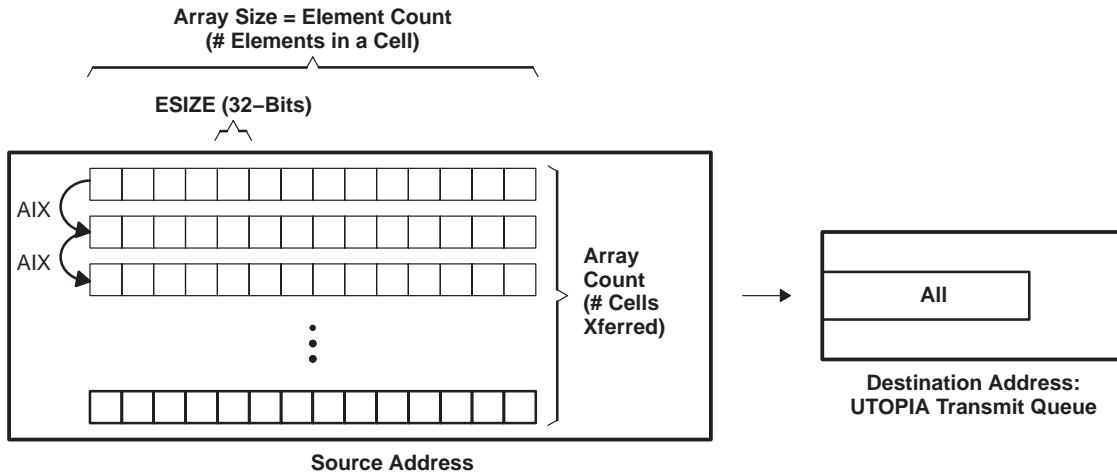

Figure 4. Array-Synchronized 2-D to 1-D Transfer
- Figure 4 shows the block diagram of the 2D to 1D transfer performed by the above EDMA parameter configuration. Each UXEVT triggers a transfer of 1 array of data with the array size set equal to the defined cell size. The source address is updated after each transfer request (UXEVT), whereas the destination address remains fixed to the UTOPIA transmit queue. The following code implements the above set up.